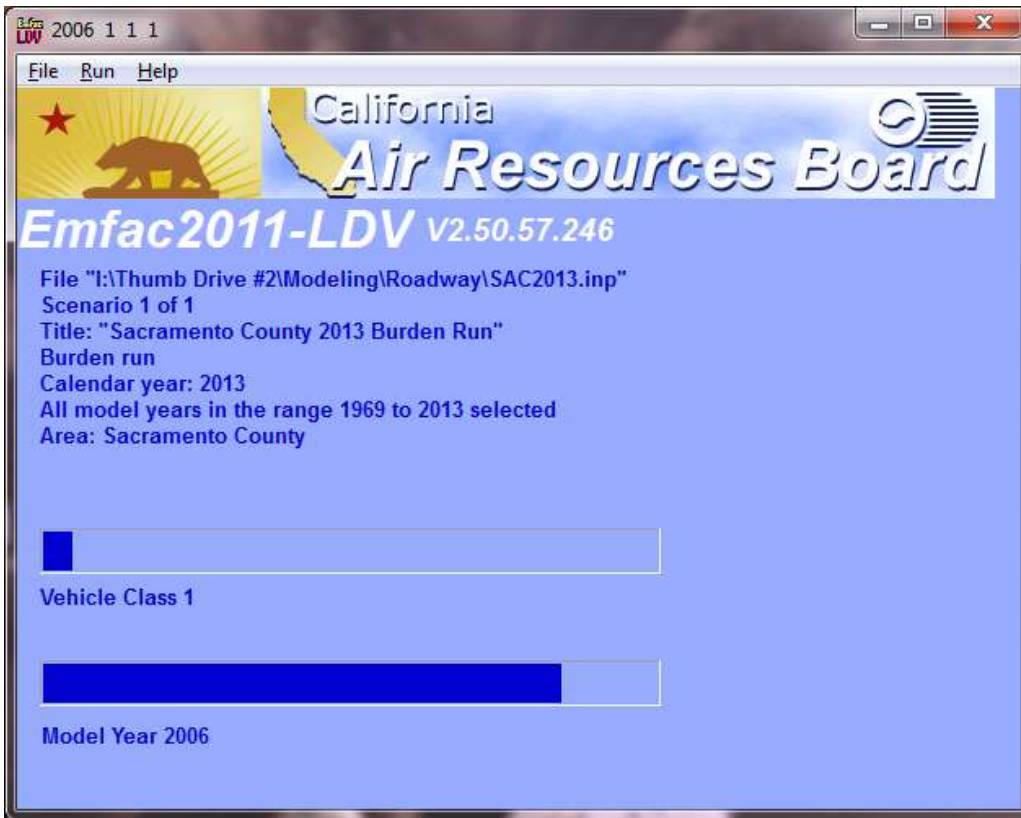
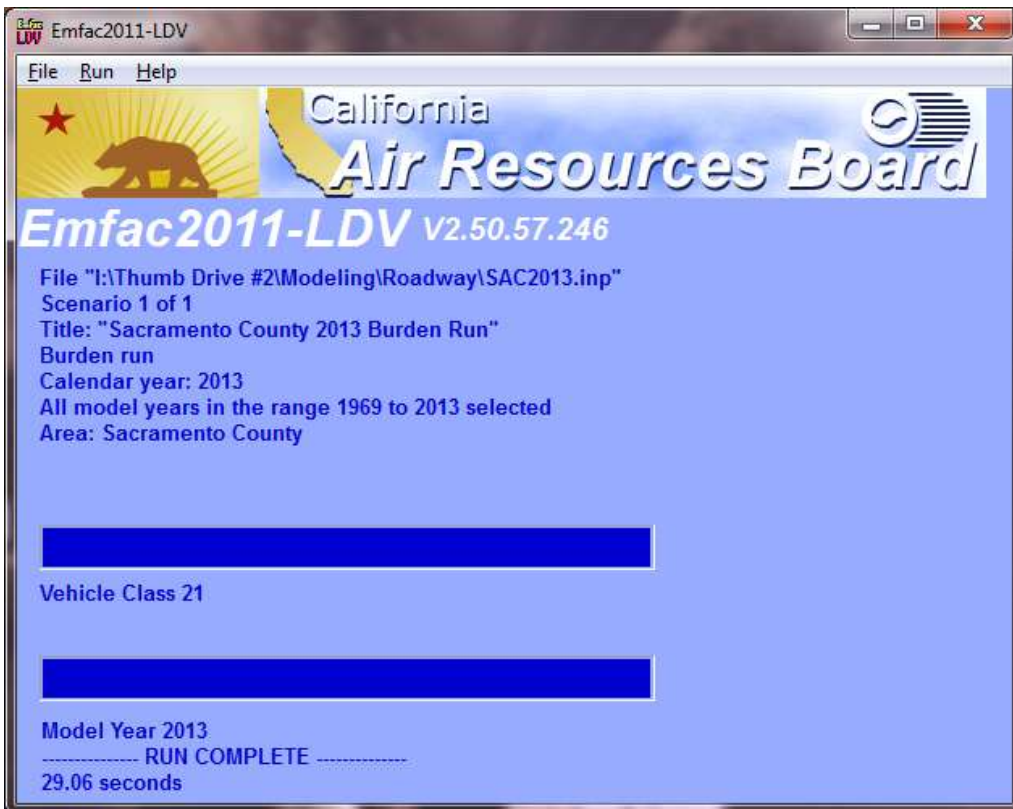

Figure 3-8 EMFAC2011 Run Started
Figure 3-9 EMFAC2011 Run Finished
19. Run EMFAC2011 to generate the burden output. The screen should change, see Figure 3-8 and Figure 3-9.